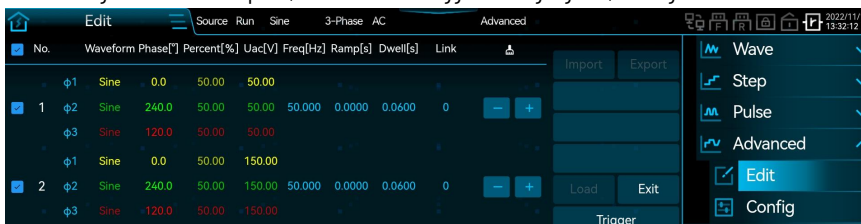

Figure 96 Advanced Programming Example Figure 5
- 4) Click 'Load' in the lower right corner. At this point, both 'Exit' and 'Trigger' are highlighted; see Figure 96.